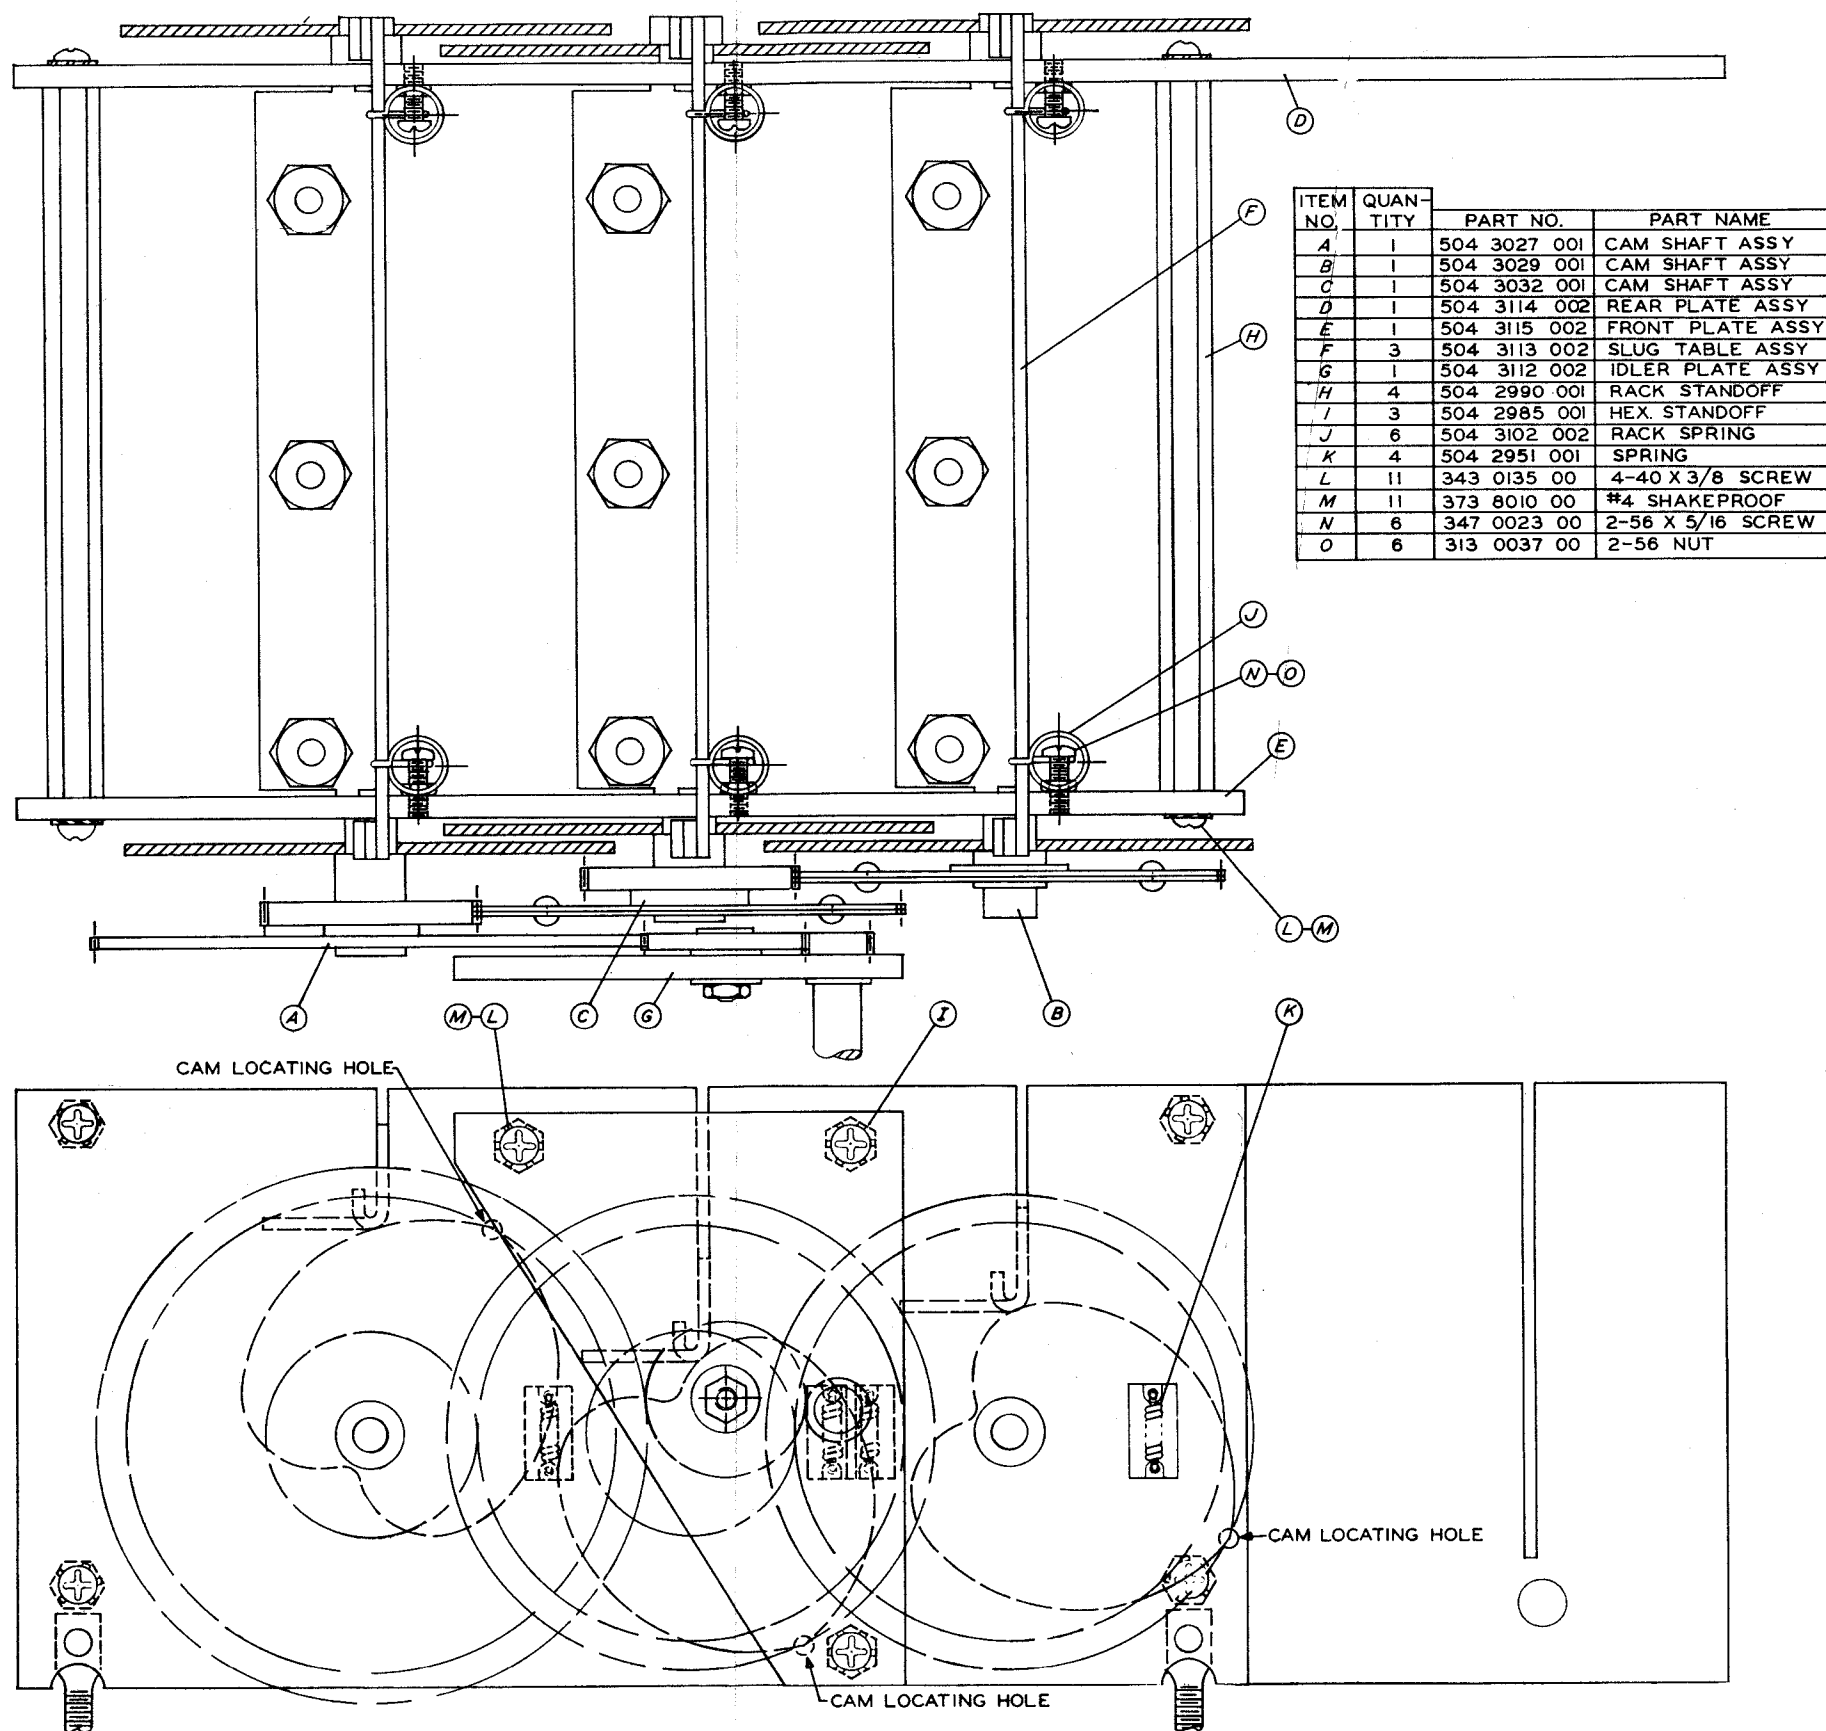

Figure 7-9. R-F Slug Rack
(1) GENERAL. - The r-f tuner assembly will require very little maintenance. However, should it be taken apart for any reason, the following information will indicate the correct positions of the cams.
(2) POSITIONS OF CAMS. - The front plate of the slug rack assembly contains three alignment holes as indicated in figure 7-9. If the cams are correctly synchronized, the tips of the front cams will be directly opposite these holes. Use a dental mirror to accurately inspect the position of the cam tips in relation to the alignment holes. If a dental mirror is not available, check positions and operation of the cams in the following manner.